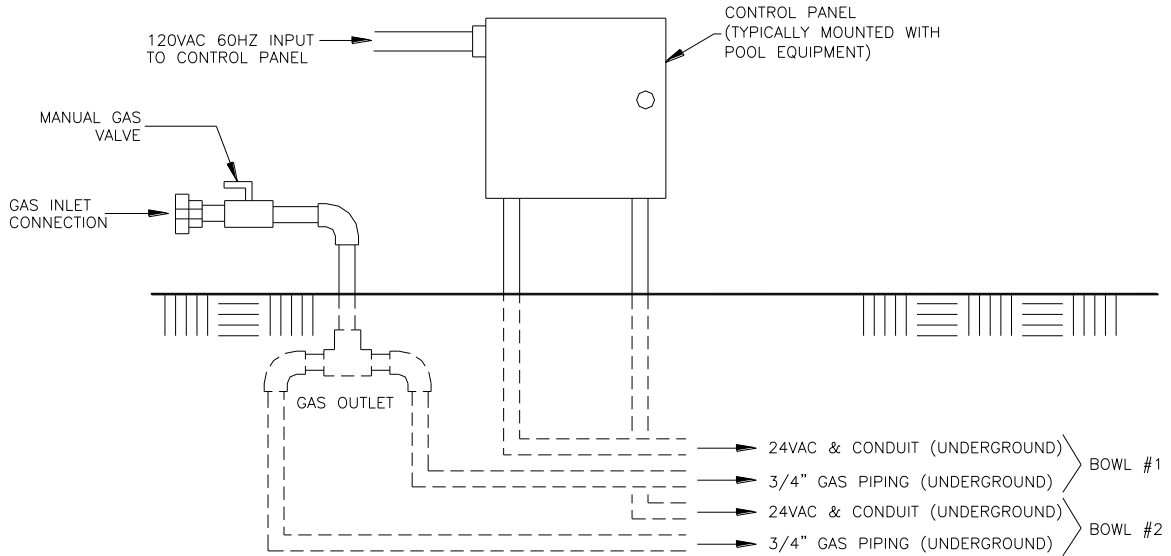
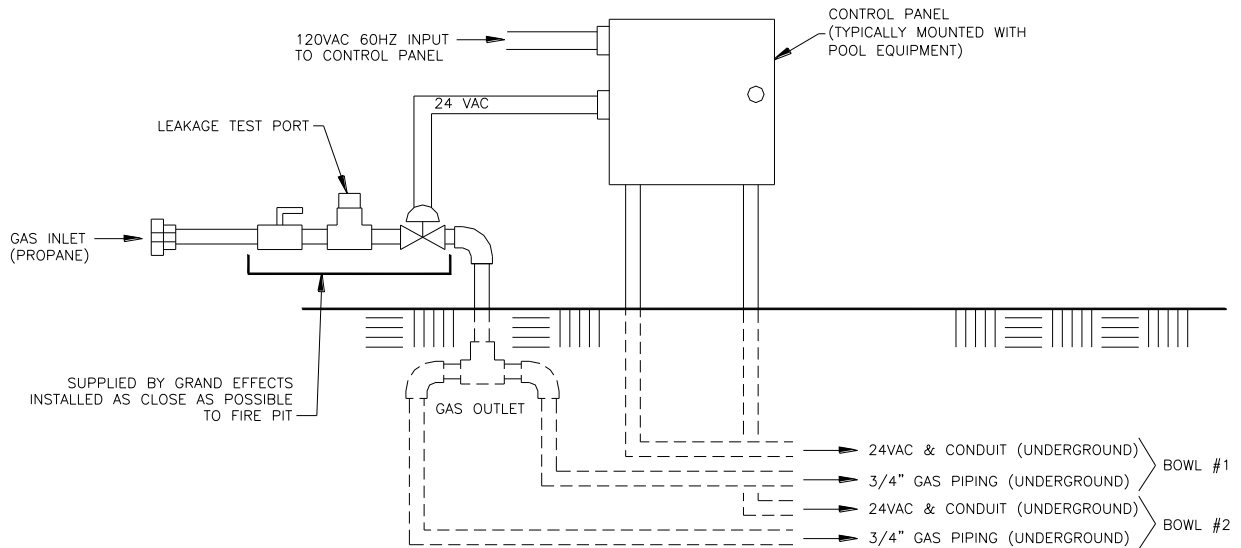
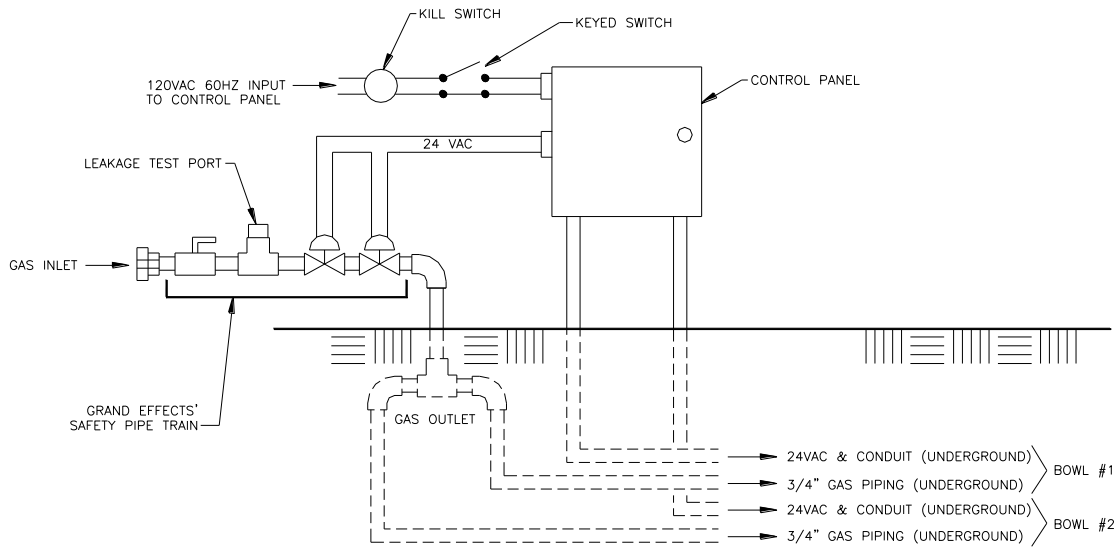
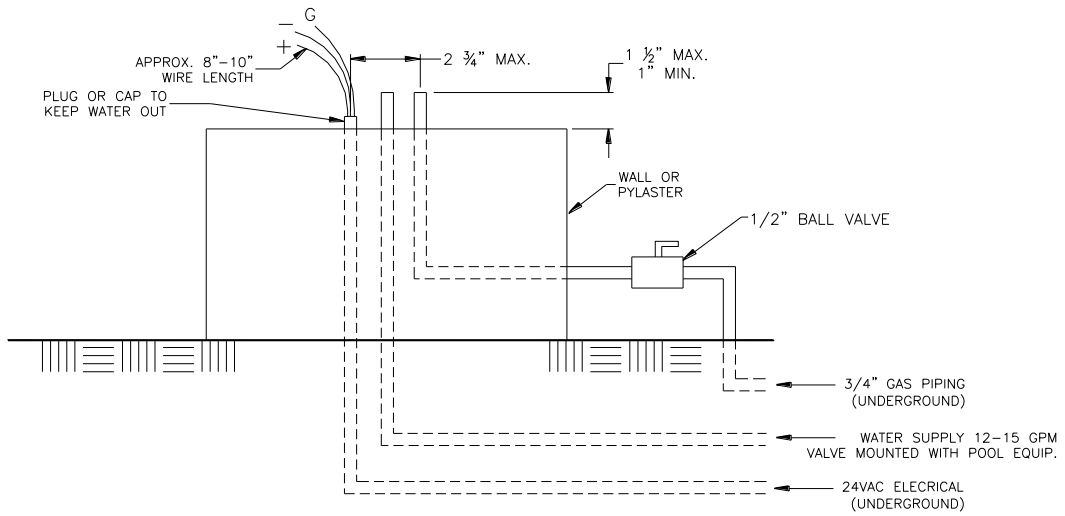

Fig. 1 (Natural Gas)
Fig. 2 (Propane Gas)
Fig. 3 (Commercial Installation)
Fig. 4
- 2.4 Install the Control Panel and gas piping as shown in Fig. 1 (Natural Gas) or Fig. 2 (Propane Gas) or Fig.3 (Commercial Installation).
- 2.5 Note that propane piping is different than natural gas (shown in Fig. 1 and Fig.2).
- 2.6 The gas piping shall be installed underground between the Control Panel and each Fire Bowl as shown in Fig. 1. The piping shall be reduced to 1/2" NPT or larger at each bowl as shown in Fig. 4.
Note: The gas and electrical and water connection at each Bowl must be located at the center of each Bowl. The connections must be installed as shown in Figure 4.
- 3.70 The height of the flame can be adjusted at each Burner by opening or closing the ½" Gas Valve or Keyed Valve as shown in Fig. 4.